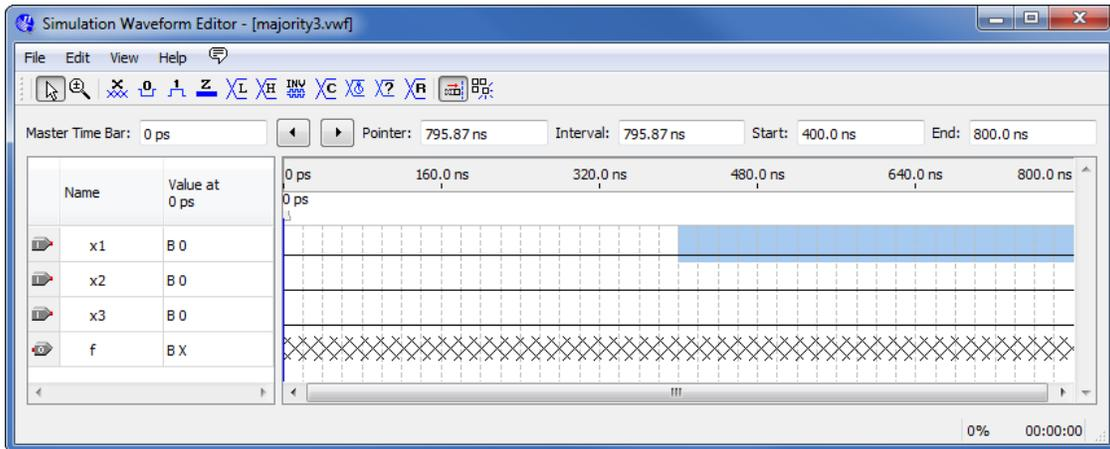
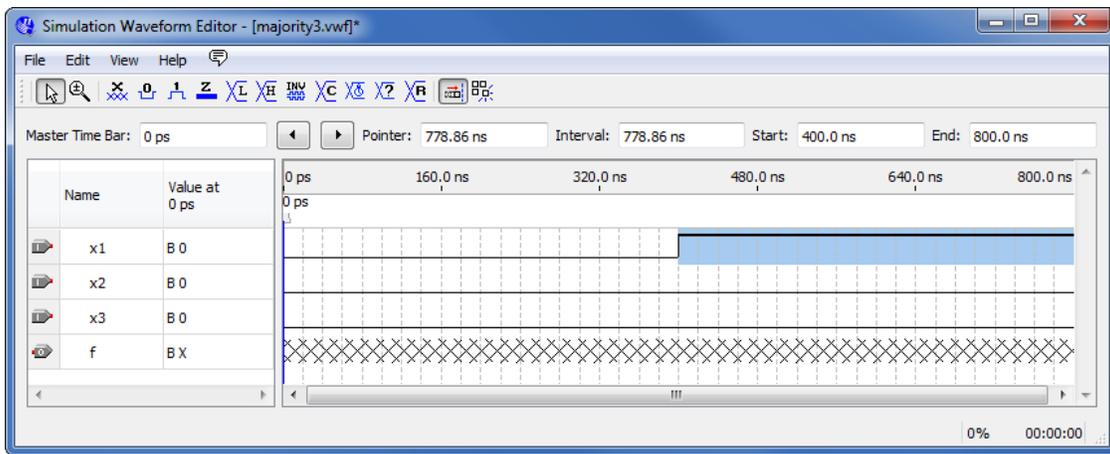

Figure 11. Selection of a time interval.
Figure 12. Drawing the waveform for *x1*
Input waveforms can be drawn in different ways. The most straightforward way is to indicate a specific time range and specify the value of a signal. To illustrate this approach, click the mouse on the *x1* waveform near the 400-ns point and then drag the mouse to the 800-ns point. The selected time interval will be highlighted in blue, as depicted in Figure 11. Change the value of the waveform to 1 by clicking on the Forcing High (1) icon , as illustrated in Figure 12.